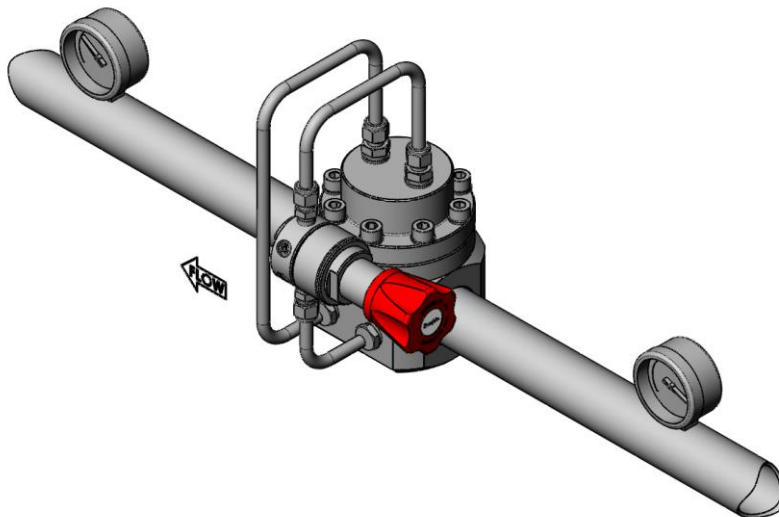
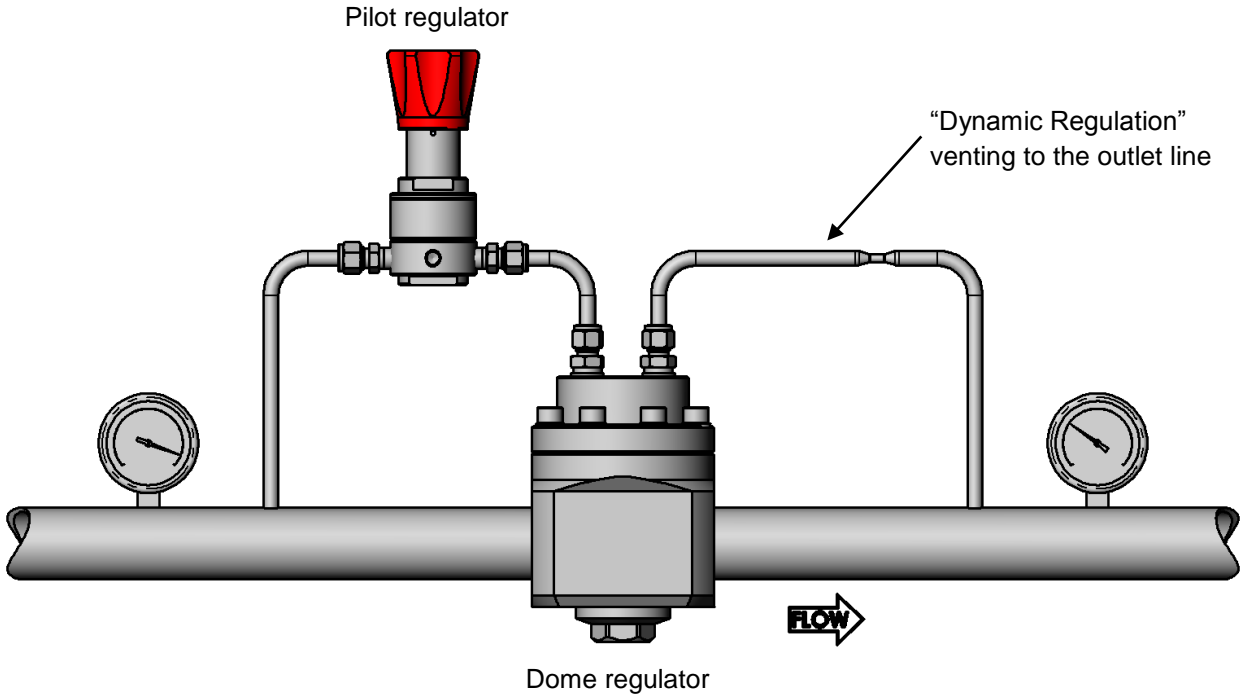
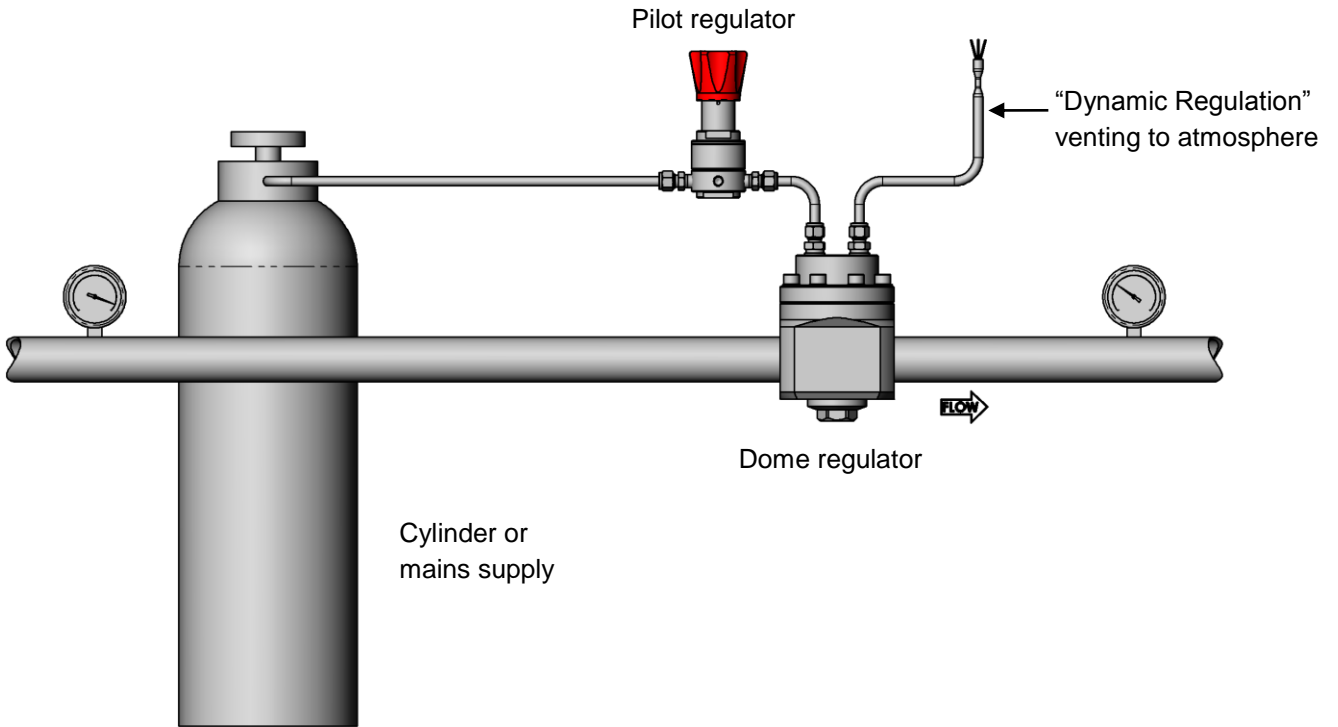

Fig 1
Fig 2
Fig 3
- The preferred mounting position of the regulator is horizontal with the dome facing upwards per Fig 1. Alternative mounting positions may increase the risk of component wear.
- **Integral pilot control.** In this setup the dome loaded regulator comes supplied with a pilot regulator as part of the assembly (Fig 1). The pilot regulator, fed from the system pressure, is manually operated to control the dome pressure (Fig 2). This setup is not suitable for liquid applications.
- **External dome control.** In this setup the dome pressure is supplied from an independent source, such as a cylinder or mains supply (Fig 3). This setup is suitable for liquid applications.
The best performance will be achieved by allowing a small flow to continuously pass through the pilot regulator. This flow can either be vented through an orifice (Fig 3) or, in gas systems, fed back through an orifice into the downstream piping (Fig 2). This is usually referred to as “**dynamic regulation**”.